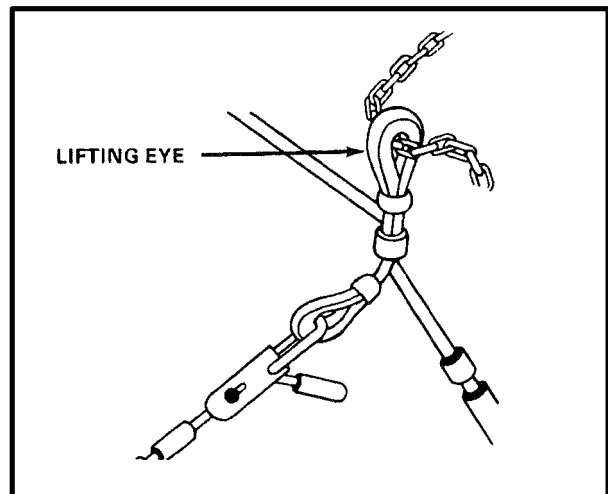

Figure 8-10. Connecting Sling Leg Lifting Eye
(5) Loop the chain end of a sling, such as the 10,000-pound capacity sling set, through each sling lifting eye as shown in Figure 8-10.